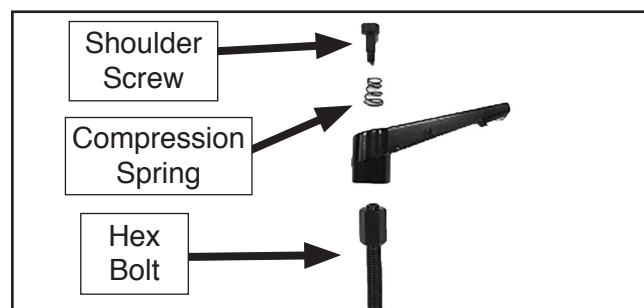

Figure 2. Installation order.
3. Place lever over hex bolt, followed by compression spring and shoulder screw (see **Figure 2**).